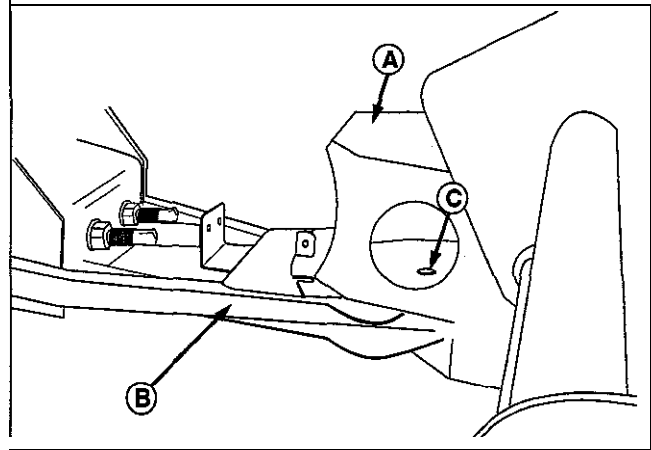

figure 4
1. See figure 4. Slide the brush head assembly (A) and hitch pivot assembly(B) together as shown.
2. Install the clevis pin (C) and secure with a hairpin clip.